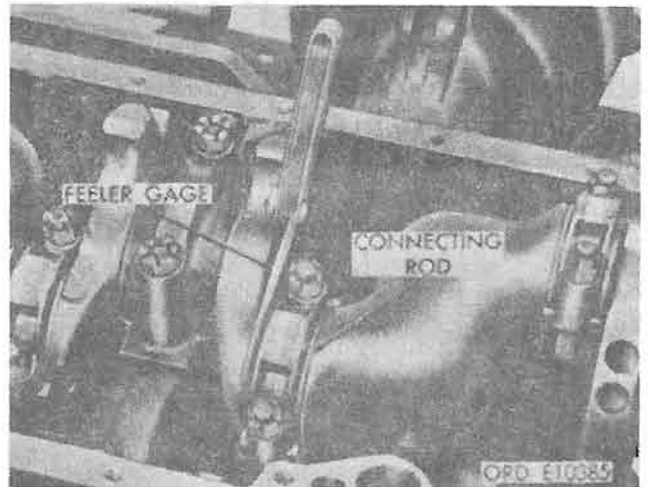

Figure 4-92. Measuring connecting rod side play.
a. **Connecting Rod Side Play.** With a feeler gage or suitable indicator, check side play of connecting rods on crankshaft and record (fig. 4-92). Refer to repair standards (table 4-7).